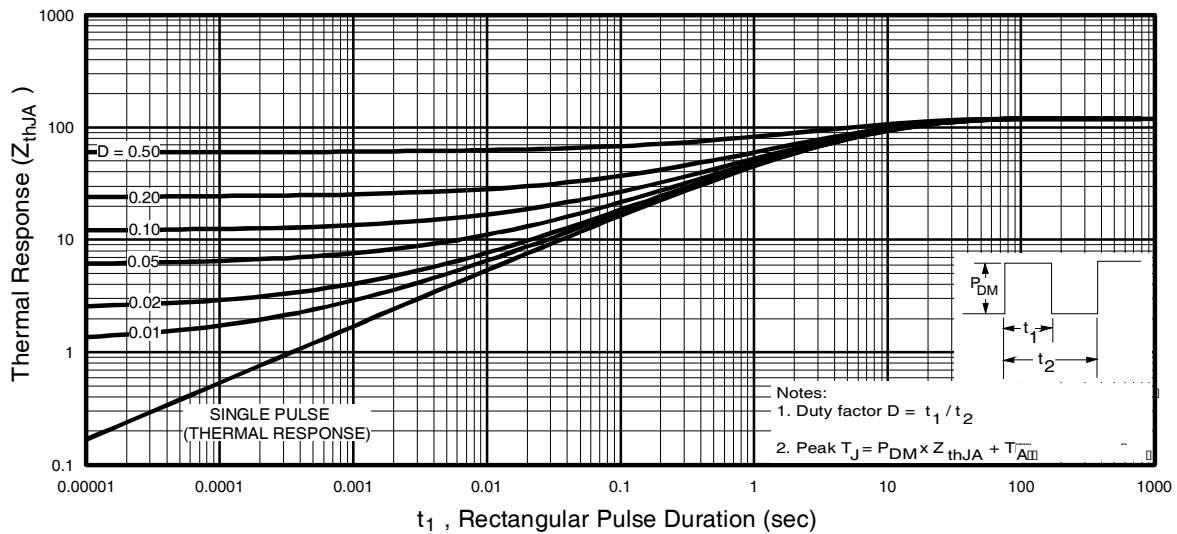

Fig 11. Maximum Effective Transient Thermal Impedance, Junction-to-Ambient
- ① Repetitive rating; pulse width limited by max. junction temperature. (See fig. 11)